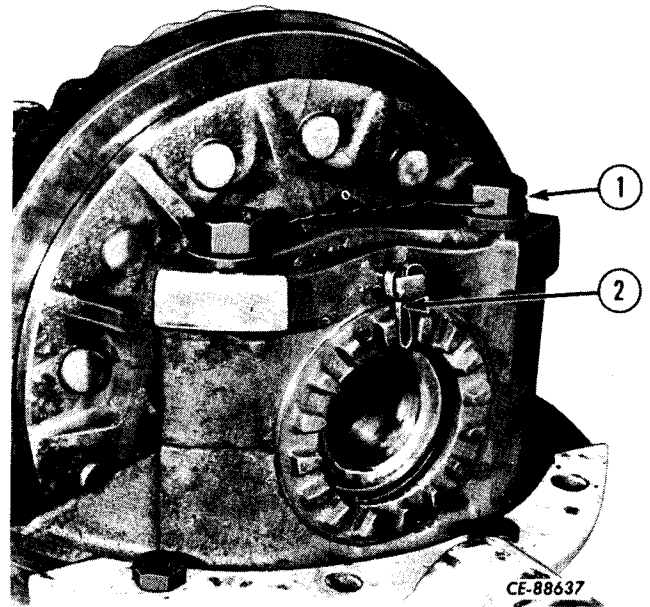

Figure 6-65
After establishing correct tooth contact, install adjusting nut locks (2, Fig. 6-65). Lock wire bearing cap retaining cap screw (1).